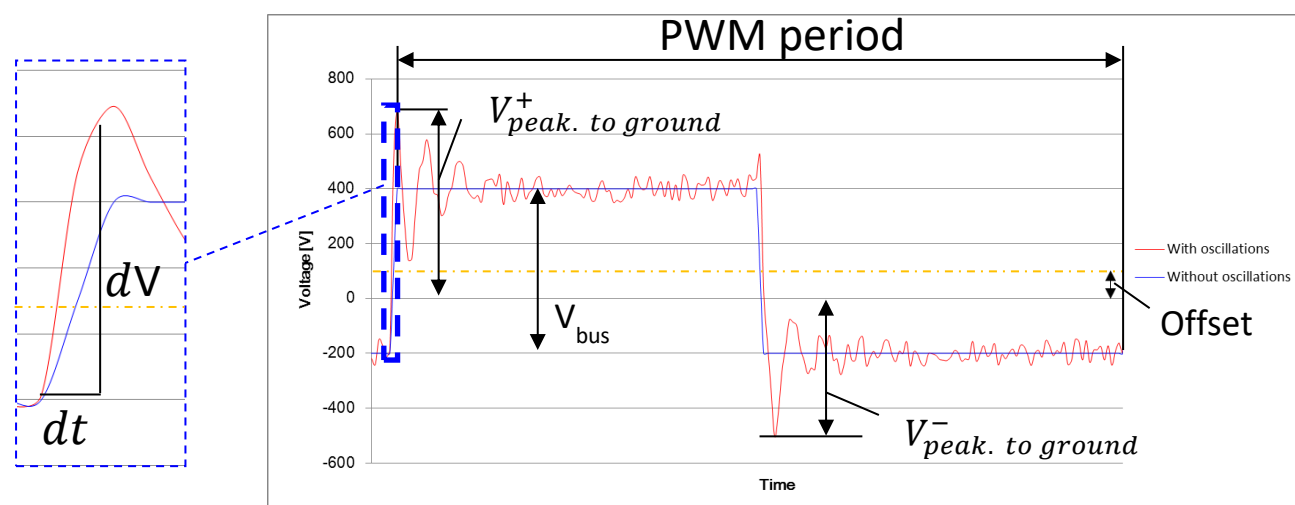

Figure 3.3.6 Voltage oscillation schematic (600/750 V_{DC} controller)
- 600 or 750 V_{DC} controllers: 800 V_p maximum (at the PWM frequency) and a voltage gradient: $11kV/\mu s$, as shown in Figure 3.3.6, and Table 3.3.2.